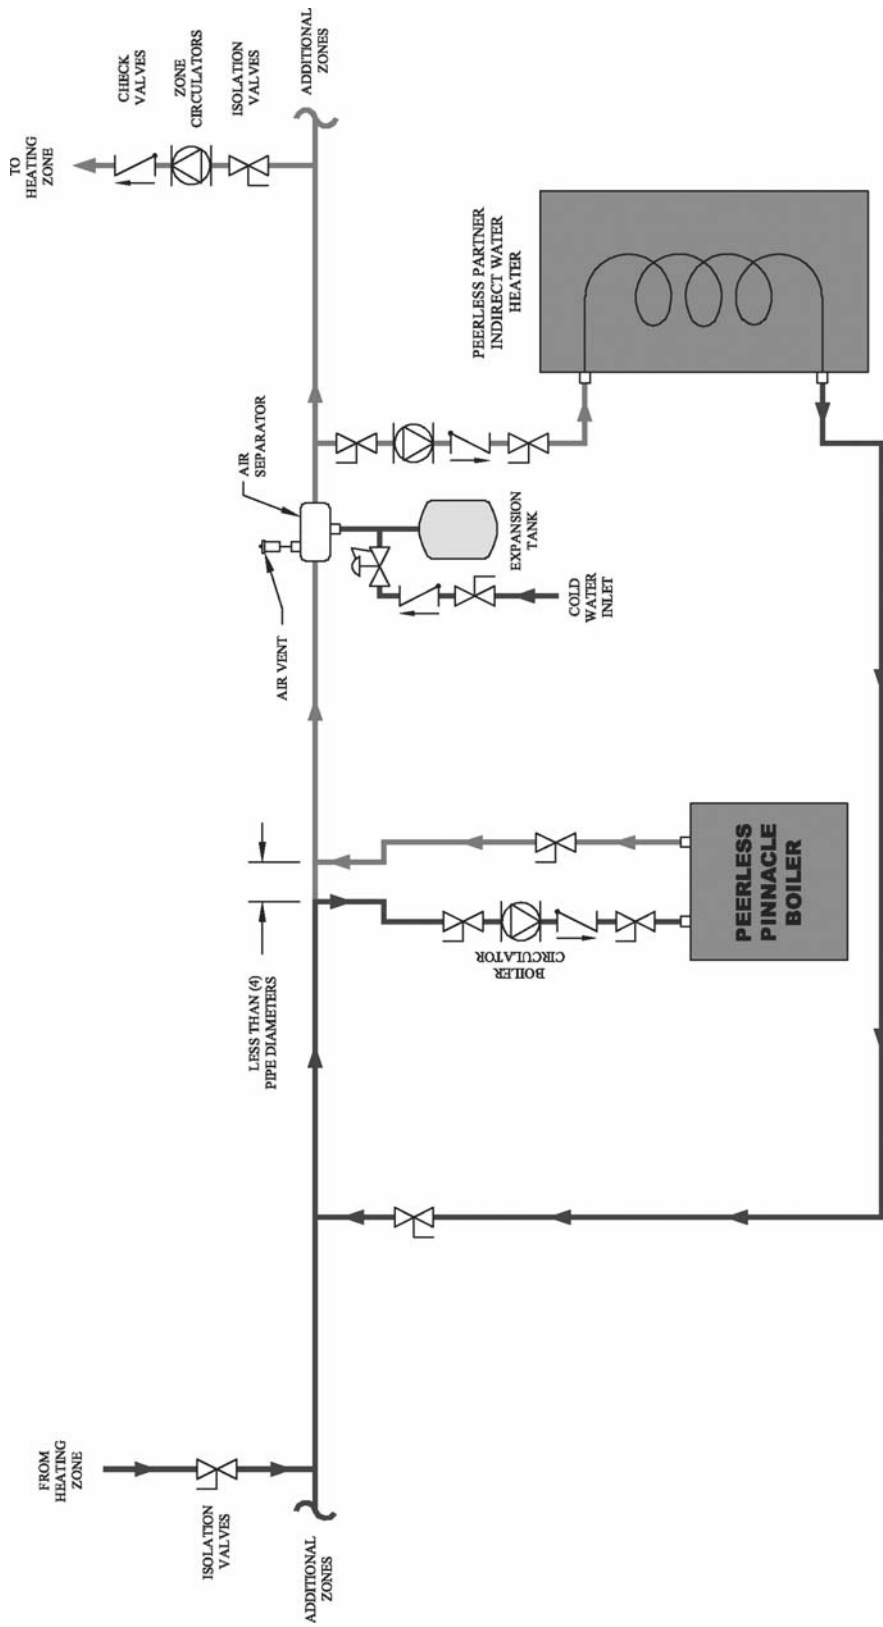

Figure 3.3
- a. Figure 3.3: This illustration shows a single Pinnacle Boiler, a Partner Indirect Water Heater, and a single heating zone. This illustration is applicable to systems where the supply temperature of the heating zone is similar to that of the indirect water heater.